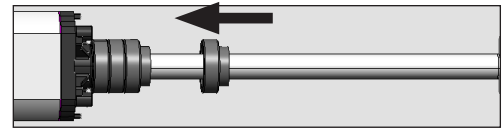

Fig. 14
14. If an opening mechanical stop on the ground is not installed, spacers can be used (Fig. 1 Ref. 7). Remove the front articulated joint and insert the spacers required (Fig. 14).